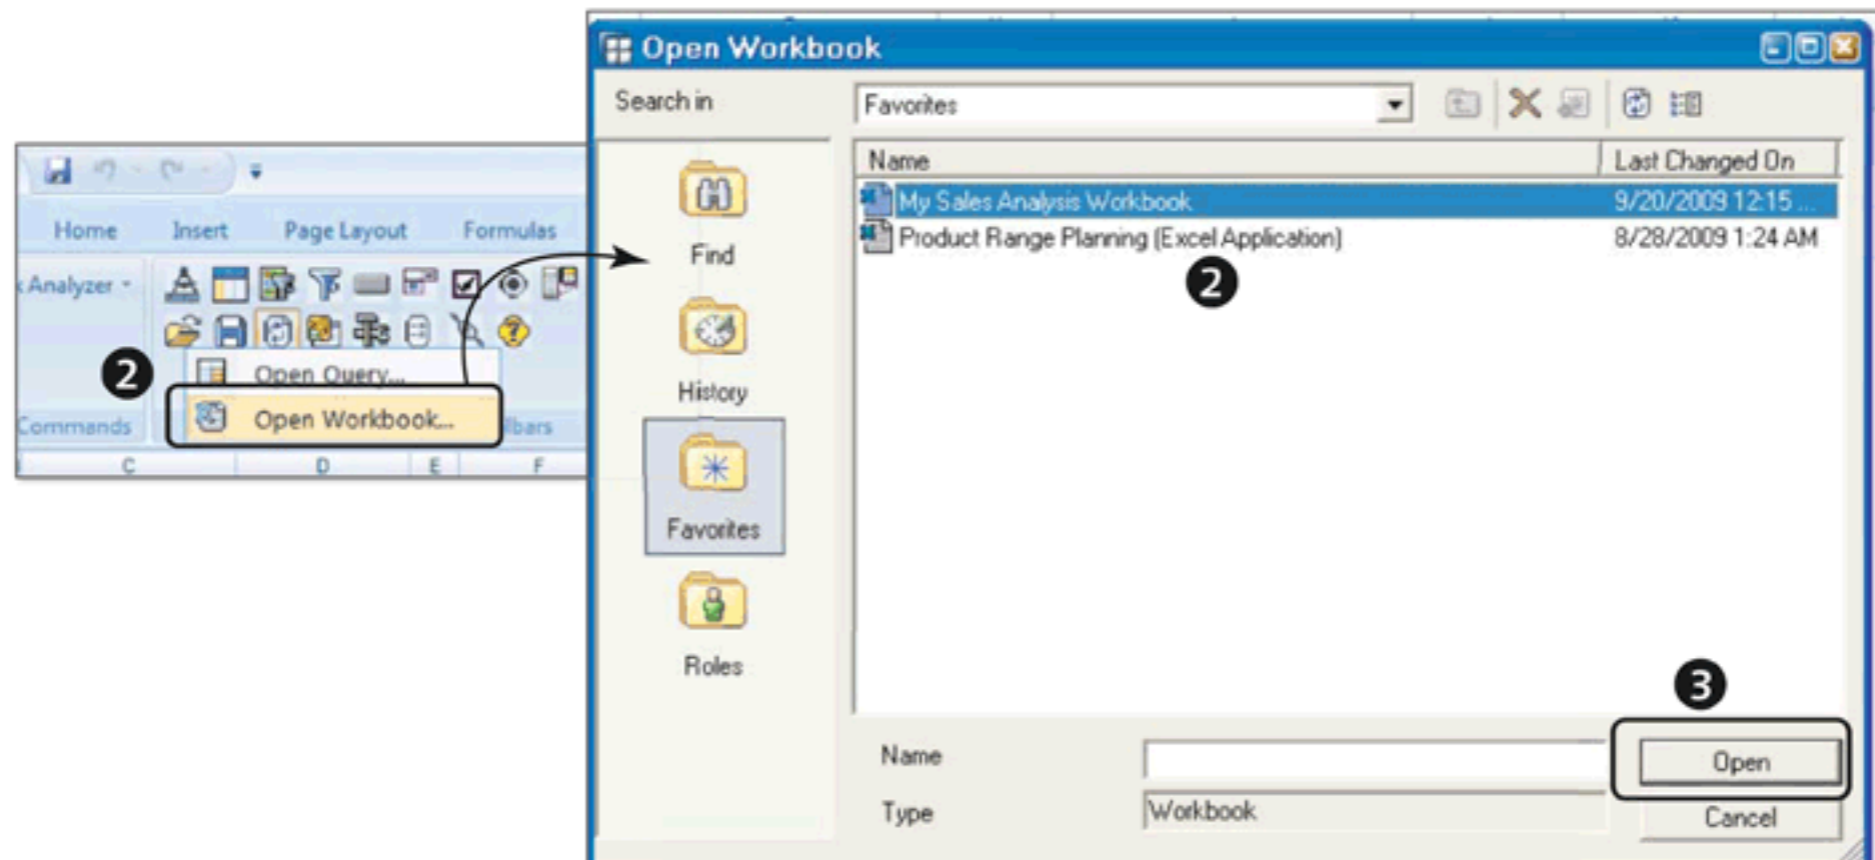

Figure 10.25 Open an Existing Workbook
To open an already-saved workbook, click on the OPEN button, and select OPEN WORKBOOK from the menu (1 of Figure 10.25). Select the workbook in the pop-up window (2) and click on OPEN (3) to open the workbook for analysis.